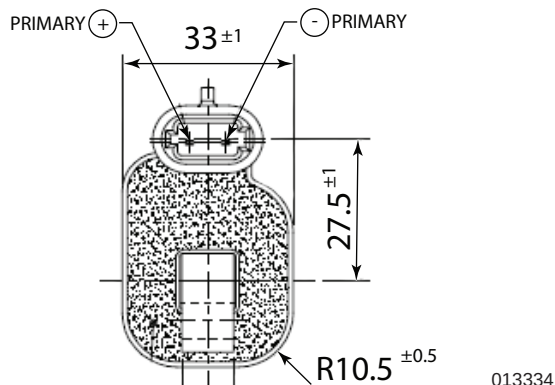

Figure 7-5. Ignition Coil
5. See Figure 7-5. Measure resistance across coil. Resistance on primary side should read 1 ohms $\pm$ 15%.